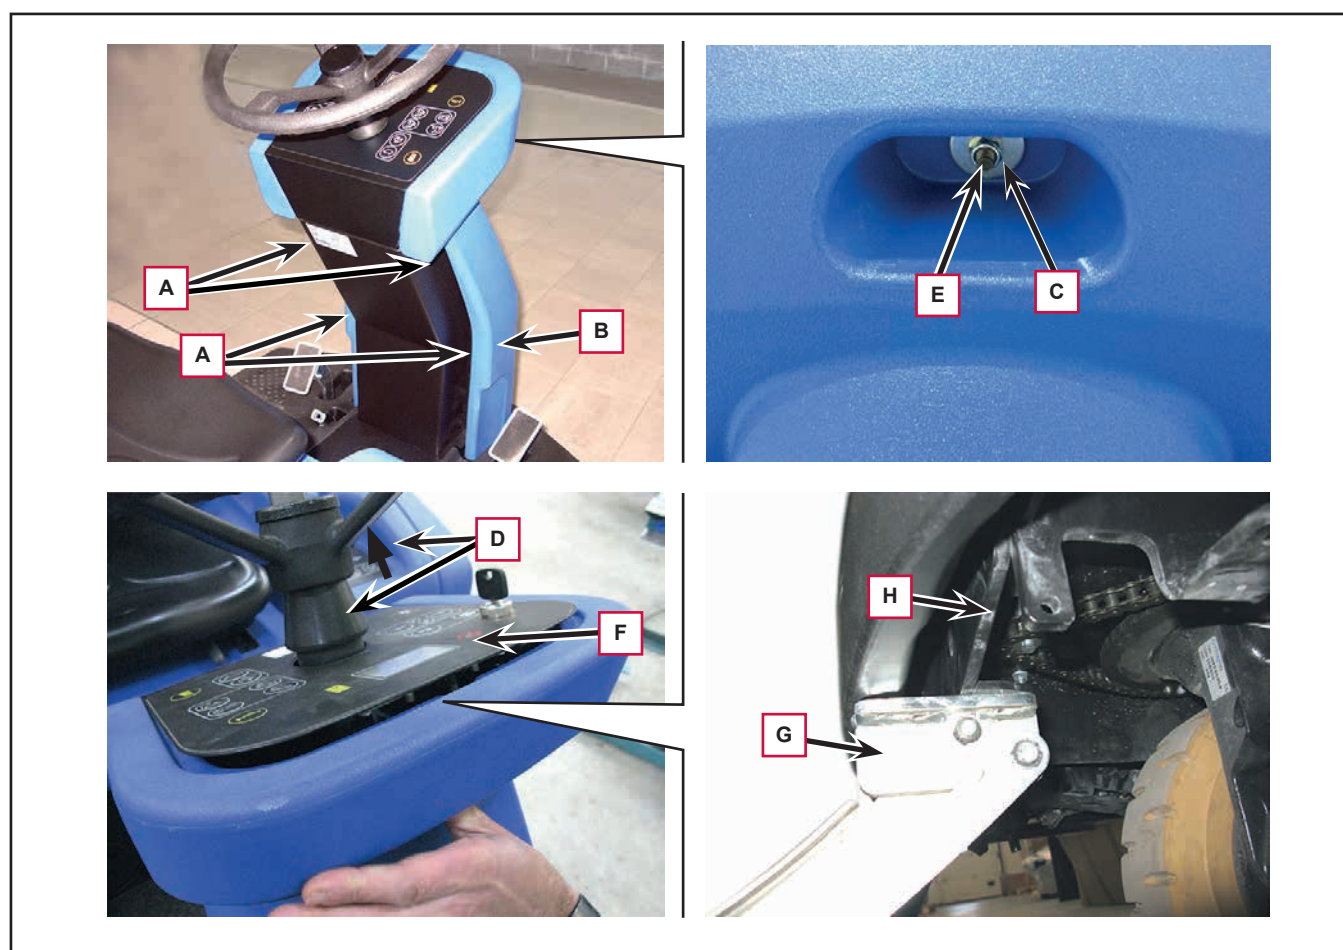

Figure 8
3. Unscrew the four screws (A, Figure 8) fastening the fairing (B).
4. Unscrew the nut (C) on the front.
5. Slide the sleeve (D) until it is flush on the steering wheel.
6. Press the stud (E), sliding it upwards (causing the Main Control Board (F) to lift slightly, then remove the fairing (B) by disengaging it from its seat and the stud (E).
7. Position a suitable lifting device (G) at the centre of the front section of the machine, on chassis bracket (H), then raise the front of the machine by a few centimeters until the driving wheel can turn without brushing the ground.